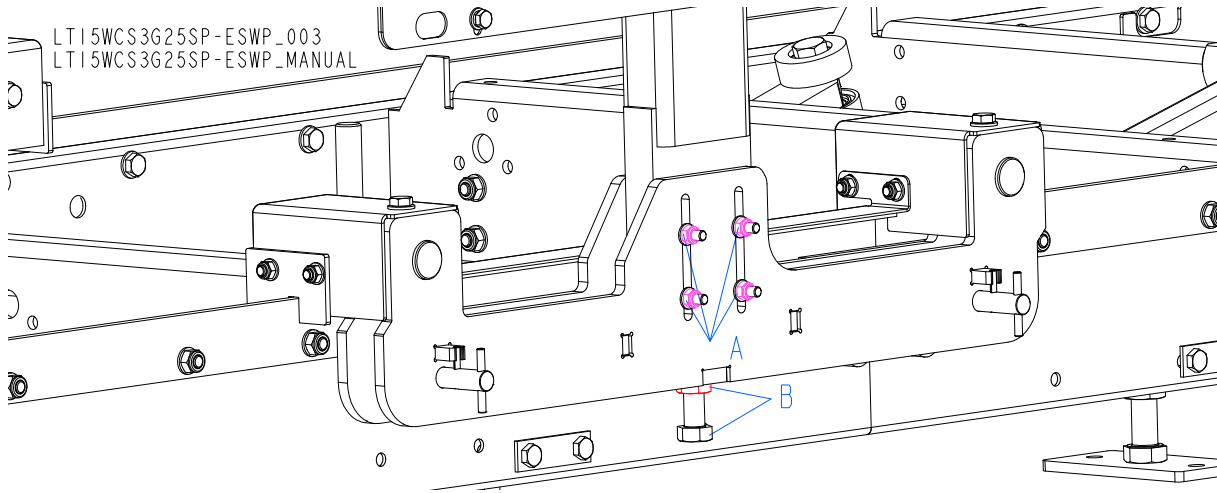

FIG. 3-2
See figure 3-2. When the blade is parallel to bed, it will measure the same distance from the bed rail at the inside and outside of the saw head. If not, adjust the saw head tilt. To do this, loosen the four mounting bolts (A) and use the saw head adjustment nut (B).